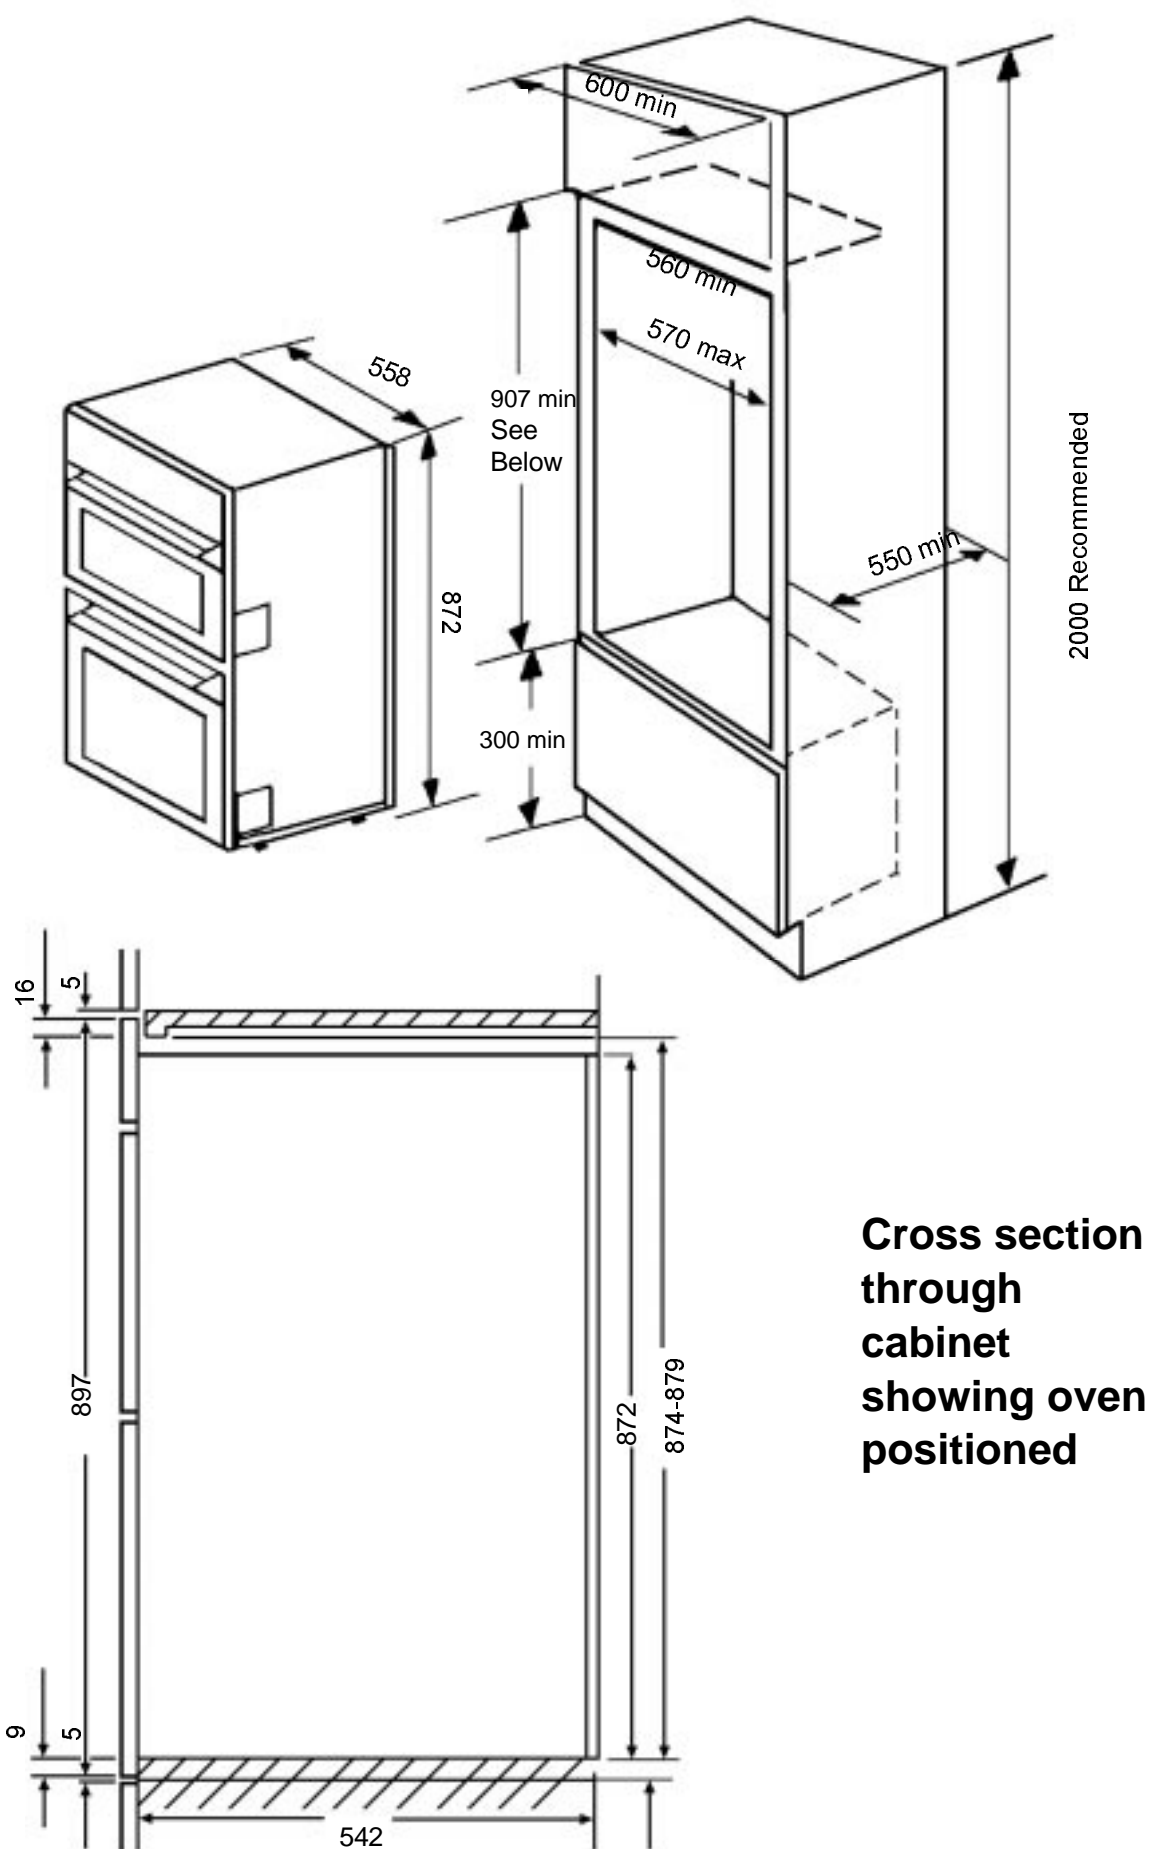

Fig.2 Built In Installation
- This appliance is designed to be fitted in cabinets of the recommended dimensions as shown in Fig. 2. If your cabinet interior dimension is between 565-570mm the oven may still be fitted. However a minor modification to the cabinet will be required.
- Make sure the cabinet is the correct size for the appliance to be fitted (Ref. Fig. 2).